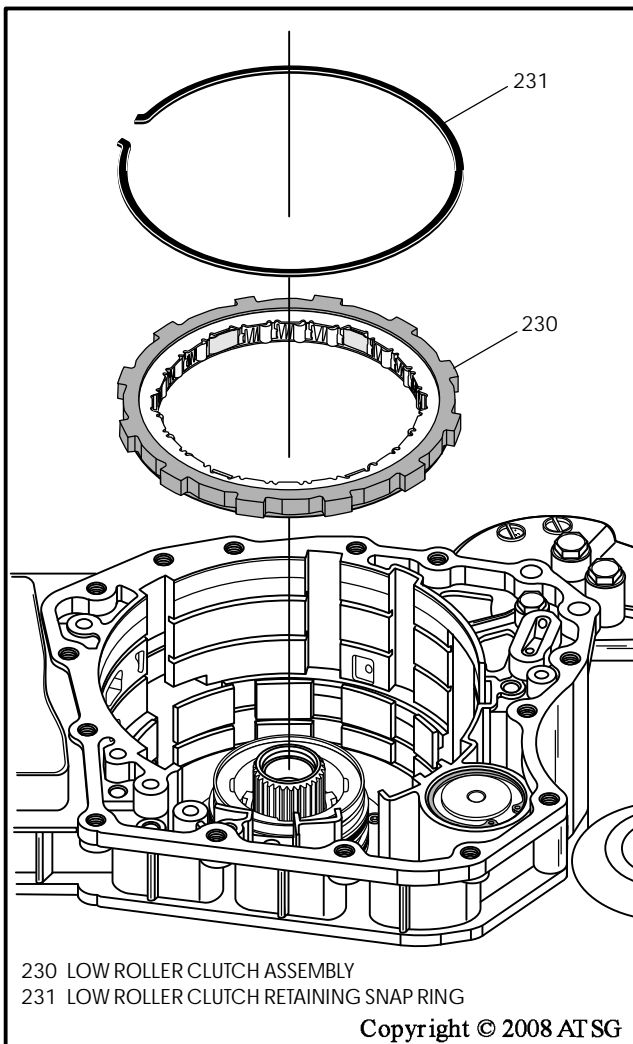

Figure 63
86. Remove the low roller clutch retaining snap ring, as shown in Figure 63.
87. Remove low roller clutch assembly, as shown in Figure 63.